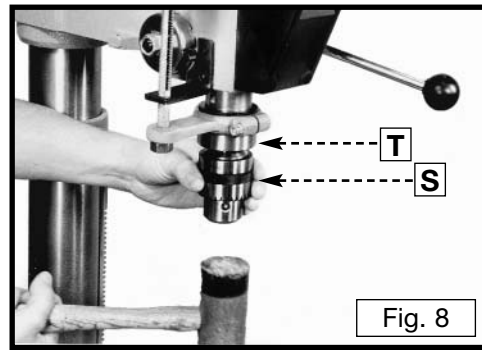

Fig. 8
- Open the chuck jaws as wide as possible by turning chuck sleeve (T) Fig. 8. Hold the chuck (S) Fig. 8 and carefully drive and seat it (S) on the spindle with a rubber mallet or with a block of wood and hammer.